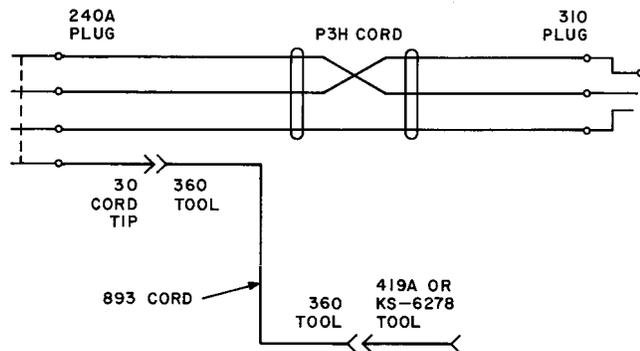

Fig. 1—Testing Cord
**2.06** Patching cord, P3H cord, 10 feet long, equipped with one 310 plug and one 240A plug (3P2A cord) (the 240A plug to be equipped with a 30 cord tip). One 893 cord equipped with two 360 tools and one 419A or KS-6278 tool. Connect as shown in Fig. 1.
13	Connect 419A tool of 893 cord (Fig. 1) to sleeve wiper cord terminal at test jack.  Note: In offices where the wiper cords do not terminate at test jack assembly, connect KS-6278 tool of 893 cord directly to the sleeve wiper.
14d	If No. 4 spring of test jack is connected directly to ground— Connect 419A tool of 893 cord (Fig. 1) to sleeve wiper cord terminal at test jack.